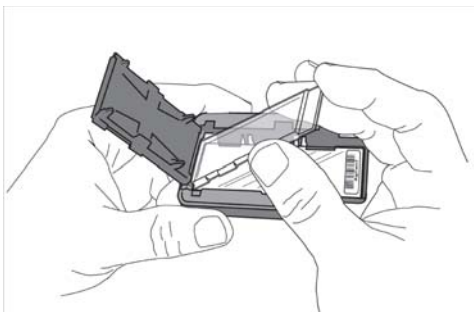

Figure 3 Inserting the ozone-barrier slide cover
- In environments in which the ozone level exceeds 5 ppb, immediately put the slides with active microarray surface (“Agilent”-labeled barcode) facing up in a slide holder. Make sure that the slide is not caught up on any corner. Put an ozone-barrier slide cover on top of the array as shown in Figure 3. Refer to the *Agilent Ozone-Barrier Slide Cover User Guide* (p/n G2505-90550), included with the slide cover, for more information.